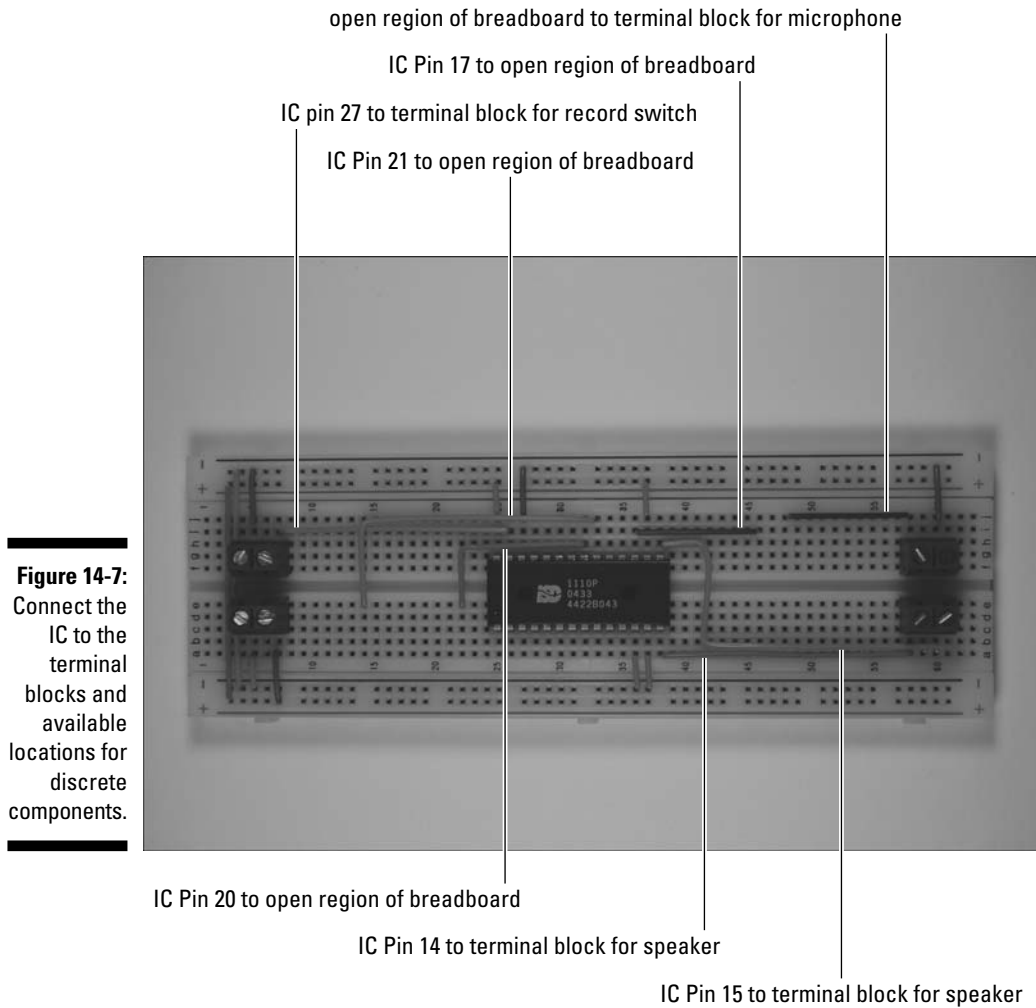

Figure 14-7:
4. Insert wires to connect the voice chip IC to the terminal blocks and to the open regions of the breadboard where discrete components will be inserted, as shown in Figure 14-7.